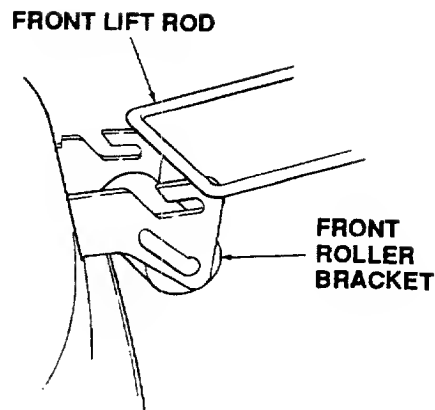

Figure 42
1. Hold the front lift rod upward and slide the mower deck rearward. Lower the front lift rod, so it rests to the front of, and free of, the front roller bracket slots of the deck. (Refer to in Figure 42.)